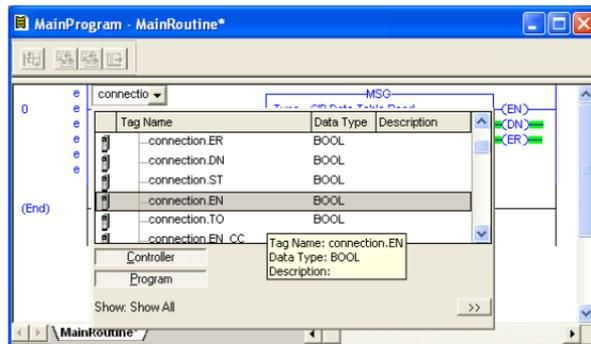

Figure 46: Configure XIO Element
- a) Double-click on the XIO element located to the left of the MSG block. In the drop-down box, double-click on the “connection.EN” field. Refer to Figure 46. This configuration causes the MSG instruction to automatically retrigger itself when it completes. While this is acceptable for the purposes of this example, it can produce high network utilization. In actual practice, it may be desirable to incorporate additional logic elements to allow triggering the MSG instruction at a specific rate or under specific conditions.